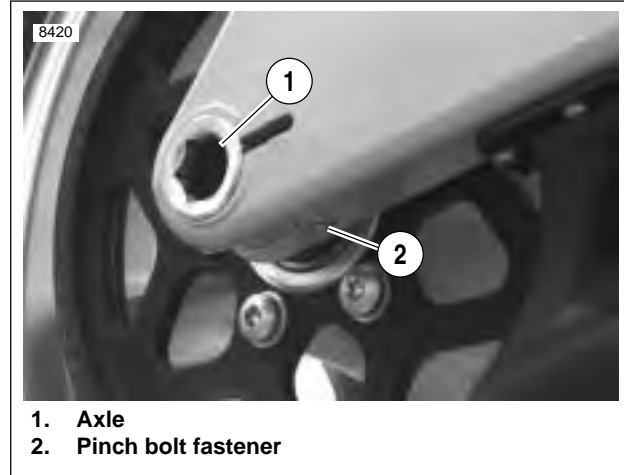
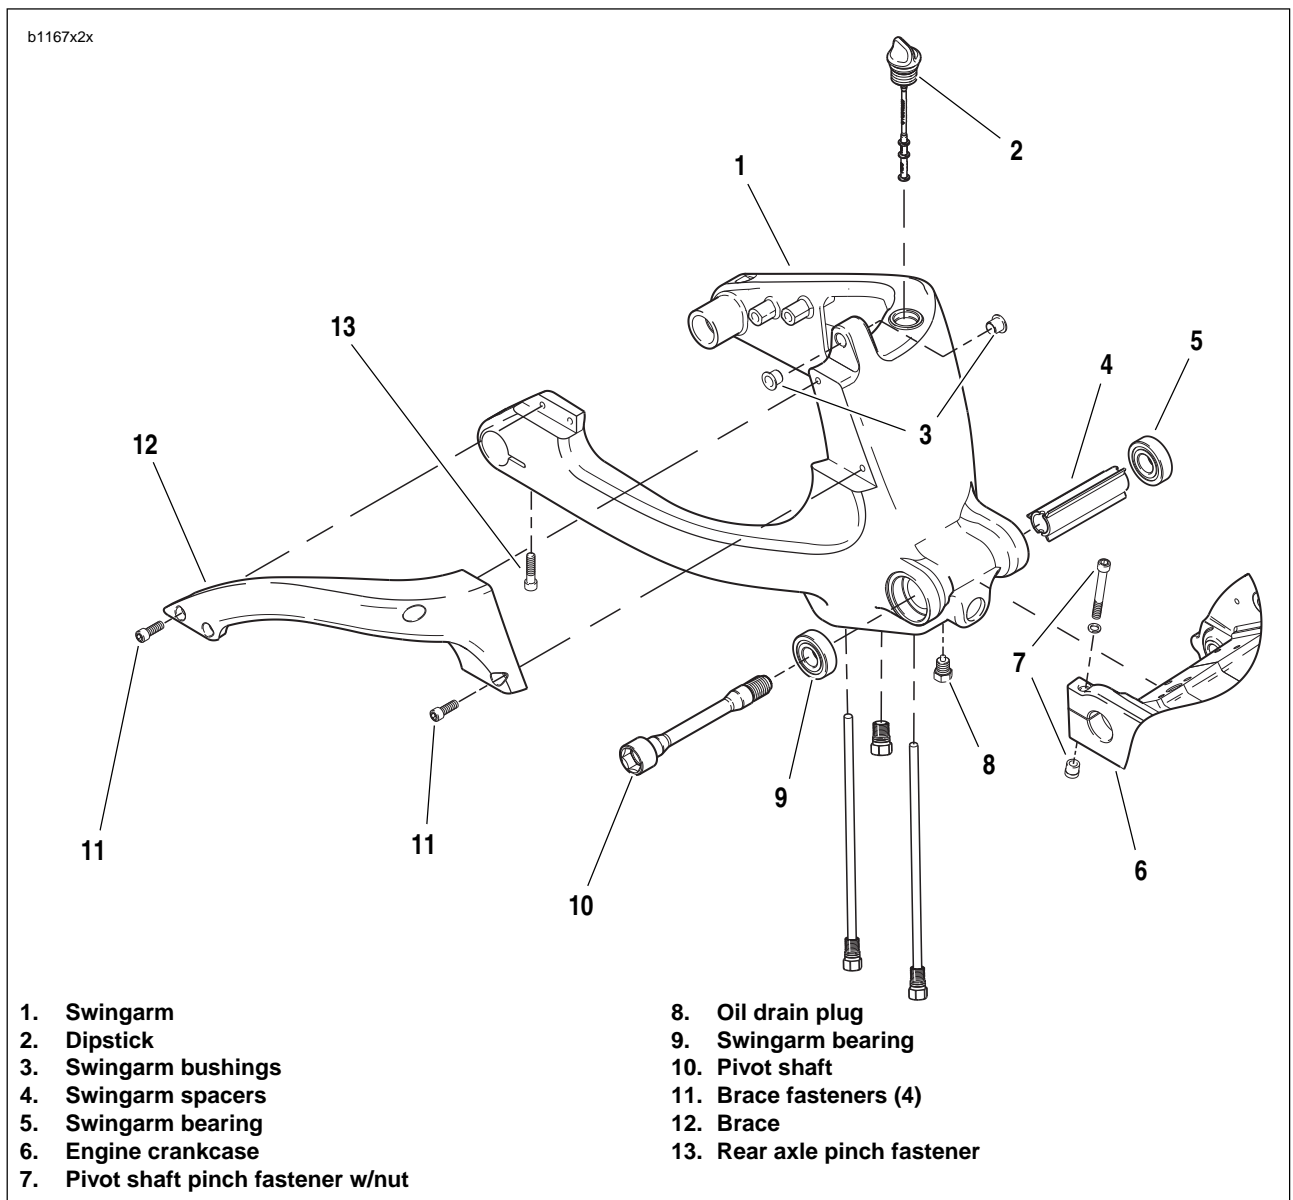
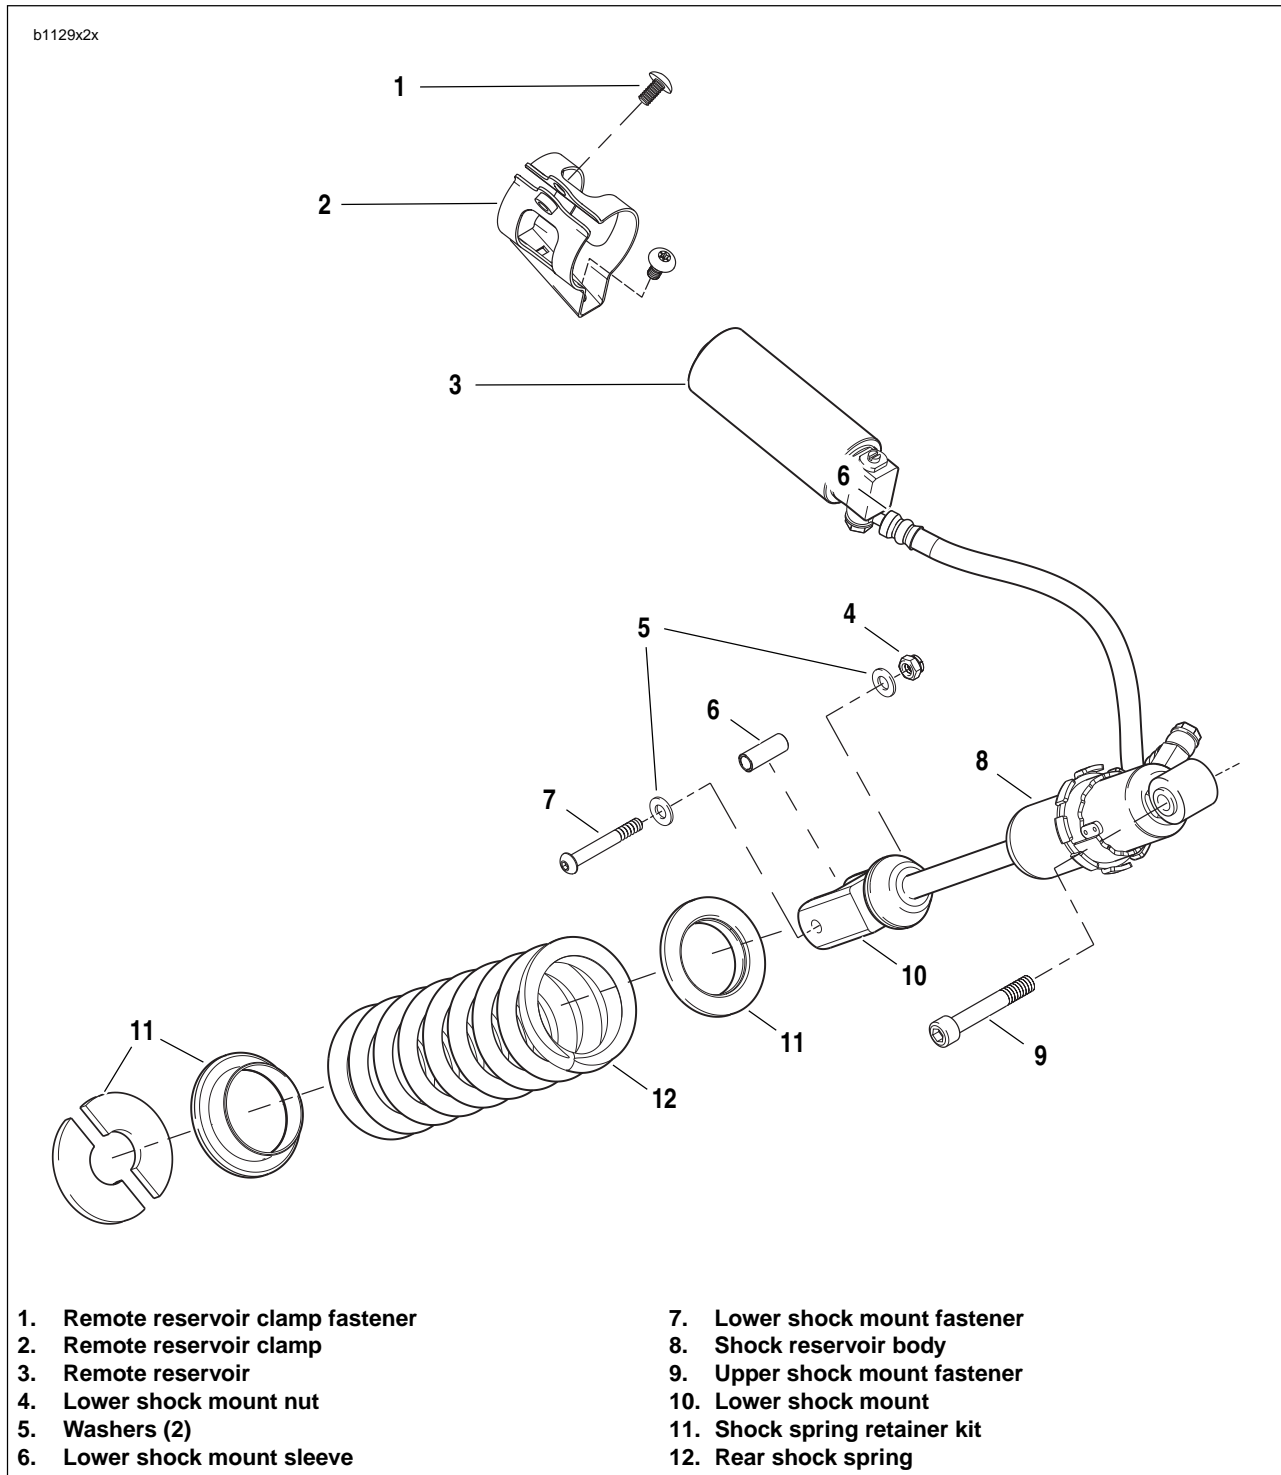

Figure 2-81. Rear Wheel Mounting, Right Side
Figure 2-83. Swingarm Assembly
Figure 2-89. Rear Shock Absorber Assembly
2. See Figure 2-81. Loosen rear axle pinch fastener (2).
3. Loosen rear axle (1) approximately 15 rotations to allow partial tension to be removed from rear drive system.
4. See Figure 2-83. Remove swingarm brace mounting fasteners (11).
5. Remove swingarm brace (12).
3. See Figure 2-83. Remove oil drain plug (8) and drain oil from swingarm. See Draining Oil in 1.7 ENGINE LUBRICATION SYSTEM.
8. See Figure 2-83. Loosen pivot shaft pinch fastener (7).
9. Remove pivot shaft (10) with a special 7/8 in. hex tool located in tool kit.
2. See Figure 2-83. Remove swingarm bearings (5, 9) using slide hammer (SNAP-ON Part No. CJ1275 or equivalent) and 3/4 in. bearing remover and spacer.
3. Remove shock mount bushings (3) and sleeve.
See Figure 2-83. Remove swingarm bearings (5, 9) only if replacement is required. The complete bearing assembly must be replaced as a unit when replacement is necessary. Do not intermix bearing components.
1. See Figure 2-83. Install **new** shock mount bushings (3).
2. Install **new** bearings (5, 9) and spacer (4) with BEARING INSTALLER (Part No. HD-44060) by lightly seating spacer.
4. See Figure 2-83. Install drain plug (8). Tighten to 29-31 ft-lbs (39-42 Nm).
1. See Figure 2-83. Align swingarm (1) in pivot of engine crankcase (6).
2. Install pivot shaft (10) with a special 7/8 in. hex tool located in tool kit, ANTI-SEIZE and tighten to 24-26 ft-lbs (32-35 Nm).
3. Tighten pivot shaft pinch fastener (7) to 17-19 ft-lbs (23-26 Nm).
4. See Figure 2-89. Install lower shock absorber mounting fastener (7) and spacer from shock absorber and swingarm and tighten to 15-17 ft-lbs (20.3-23 Nm).
3. See Figure 2-83. Install swingarm brace (12) with swingarm brace mounting fasteners (11) loosely. Do not tighten.
4. Tighten swingarm brace fasteners (11) to 25-27 ft-lbs (34-37 Nm).
6. Tighten rear axle pinch fastener (13) to 40-45 ft-lbs (54-61 Nm).
1. See Figure 2-89. Install rear shock assembly in upper shock mount
2. Install fastener (9) and tighten to 49-51 ft-lbs (66-69 Nm).
3. Install lower shock mount with fasteners (4, 5, 7) and lower shock mount sleeve (6) and tighten to 15-17 ft-lbs (20.3-23 Nm).